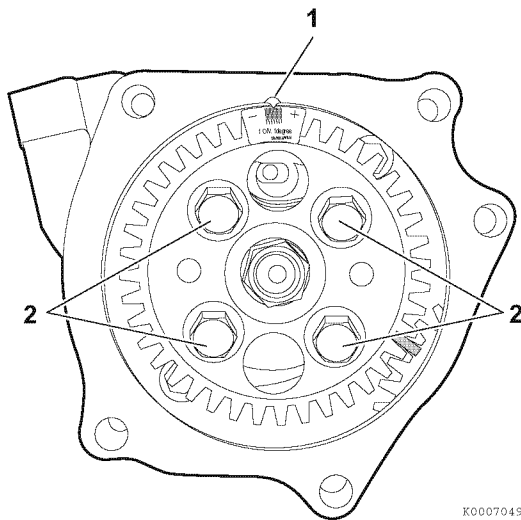

Figure 7-37
5. Clean the area of the gear by the pointer on the timing cover and put the sticker on the drive gear, aligning the timing mark on the timing cover (**Figure 7-37, (1)**) with the center of the sticker.
6. Loosen the four bolts (**Figure 7-37, (2)**) fastening the injection pump drive gear to the flange.